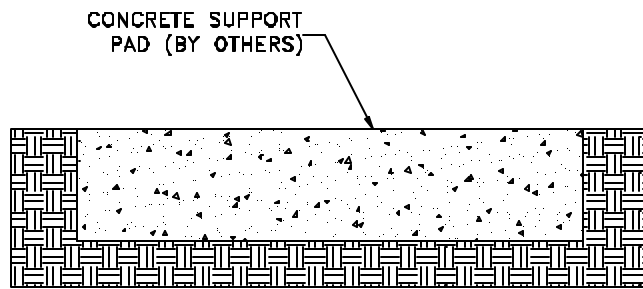

Figure 2
STEP 3. If the system is to be cast into place, pour the concrete support pad, if required (see Figure 2). Ensure that the support pad is the proper width, thickness, elevation, configuration, and length. Ensure that the top surface of the pad is level.